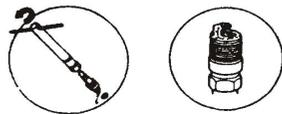

Figure 39
3.2 Remove the spark plug with a special tool (Figure 39)